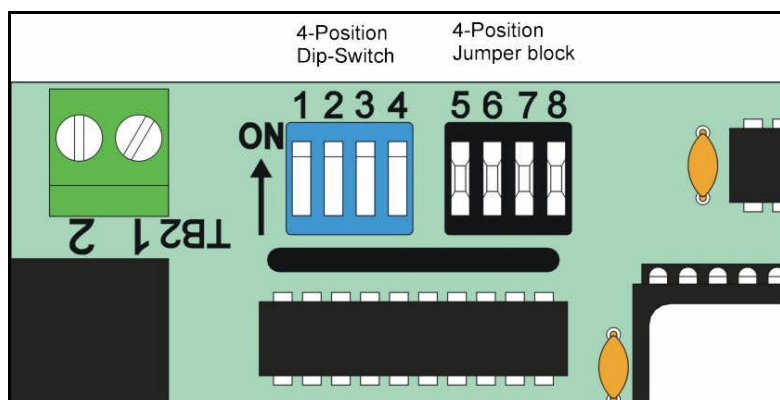

Figure 5B - Section of CPU board showing dip switch and jumper location
3. **DIP SWITCH and JUMPER SETTINGS:** The dips switches and jumpers on the main CPU board are used to set operational parameters on start up of the unit. See **Figure 5B** for location. While dip switch settings can be reset to original positions once altered, changes in the jumper block are **permanent**. To cut a jumper, press a sharp object through the thin point of the metal foil for the desired position. (If wire jumpers are used instead of the foil block depicted in Figure 5B, simply cut the desired jumper with a small pair of wire cutters). To repair a jumper that has been cut, the board must be returned to the factory. The parameters that the switches and jumpers control are defined in the following tables.